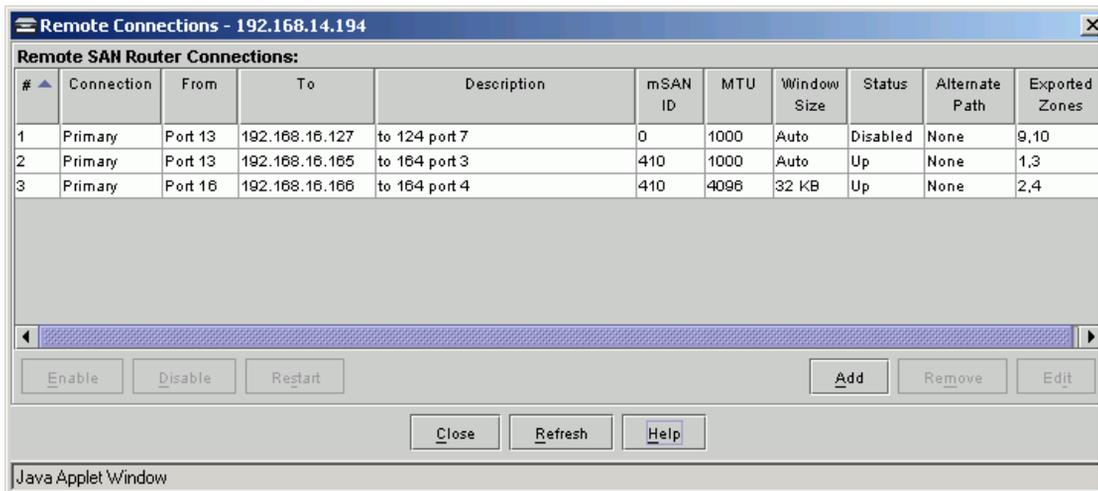

Figure 4-6 Remote Connections Dialog Box
1. Select *Configuration>iFCP>Remote Connections* to display the *Remote Connections* dialog box (Figure 4-6).